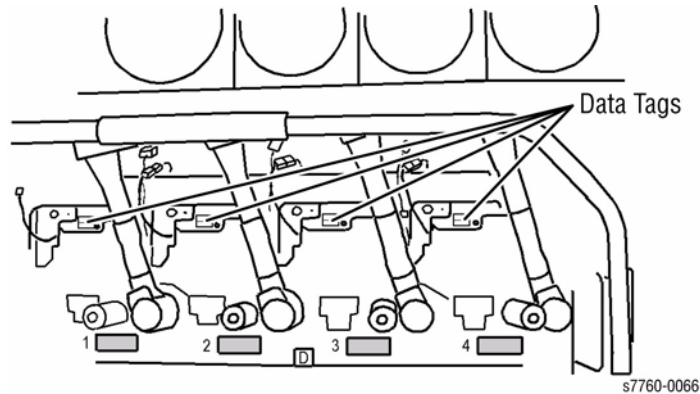

Figure 2 Installing ATC Sensor Setup Data Tag
3. During machine assembly, install the ATC Sensor Setup Data Tag as shown (Figure 2).